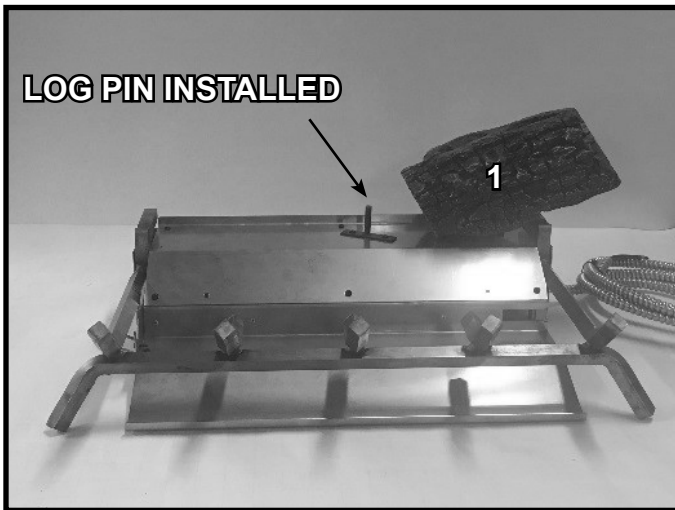

Figure 2. Install Log #1
2. Install log #1 on the right rear pin. This log also has a notch to fit over the grate as shown in Figure 2.